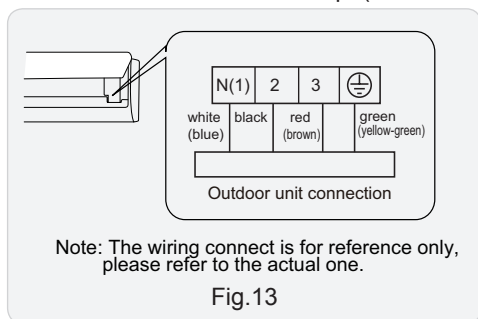

Fig.13
(3) Remove the wire clip; connect the power connection wiresignal control wire (only for cooling and heating unit) to the wiring terminal according to the color; tighten the screw and then fix the power connection wire with wire clip. (As show in Fig.13)